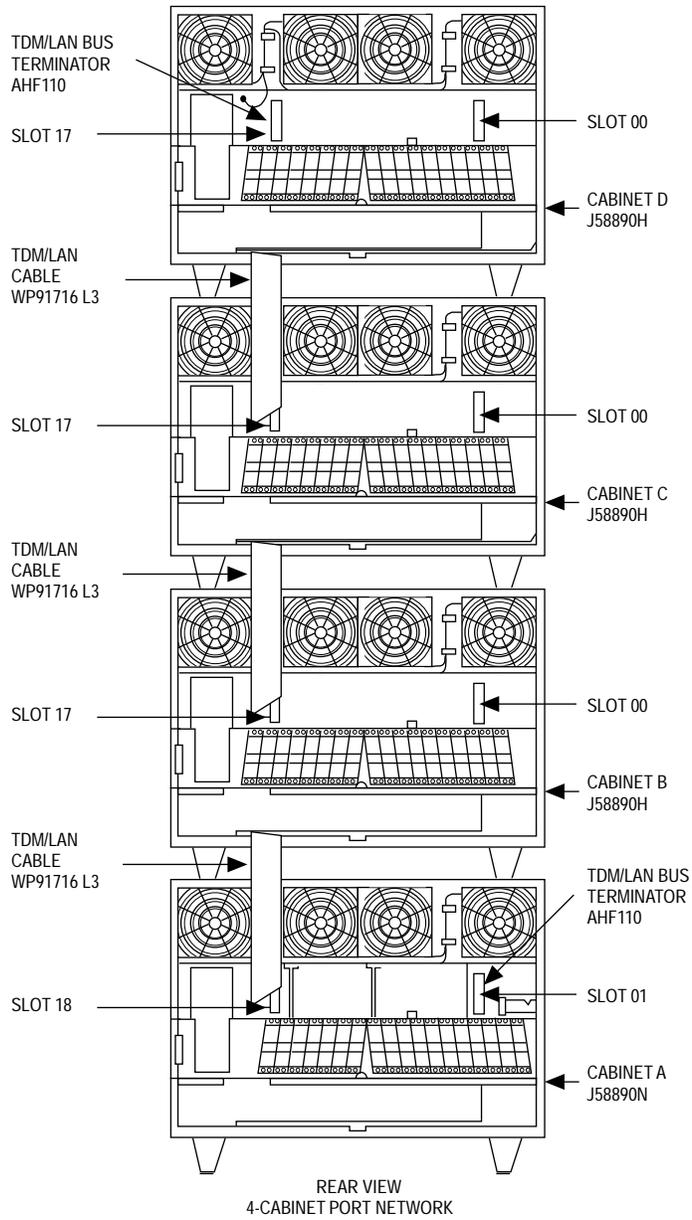

Figure 2-22. TDM/LAN Connections for G3i V4 EPN
- a. Verify that an AHF110 TDM/LAN bus terminator is installed on the right side of the expansion control cabinet (looking from the back of the cabinet) as shown in Figure 2-22.
- b. On the top port cabinet, remove the existing TDM terminator (AHF1) and replace it with a AHF110 TDM/LAN bus terminator (see Figure 2-22).
1. Route and connect the new WP-91716 L3 TDM/LAN cables (see Figure 2-22). Use the following steps to route the cables between the R1V3 port cabinets being reused. The new cables are not run through the existing slot in the rear shelves.